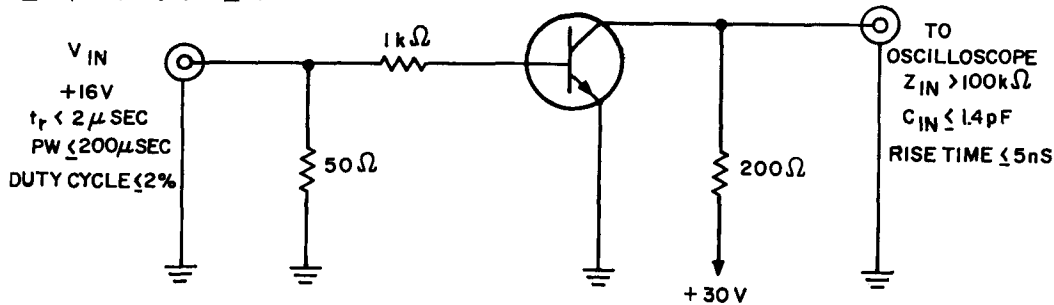

FIGURE 1. TEST CIRCUIT FOR DETERMINING TURN-ON TIME
- ($I_C = 150mA, V_{CC} = 30V, I_{B1} = 15mA$, Figure 1)